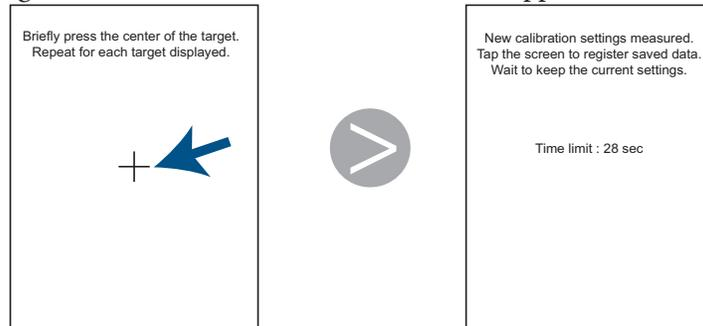

Figure 99. Calibrating the touch screen
- On each calibration screen that appears, press the + and hold for approximately 2 seconds (*Figure 99*). A screen with a 30-second timer appears.